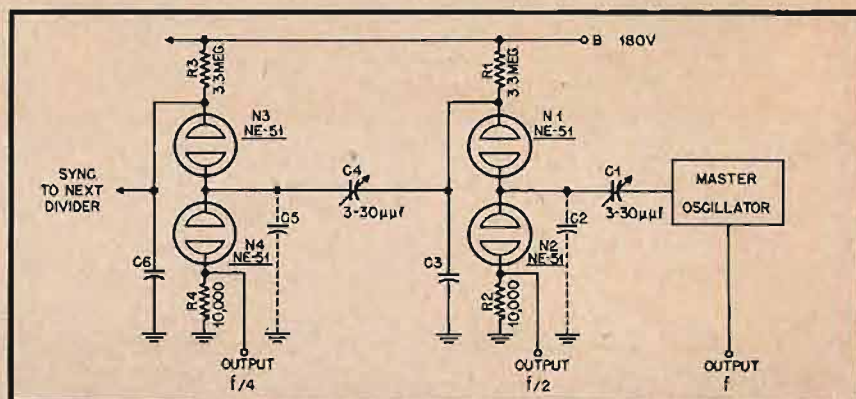

Fig. 1
The way the new invention works is illustrated by the schematic diagram of Fig. 1. Two neon oscillators, that is, two stages of a frequency-divider chain, are shown. Each consists of two neon lamps ( $N_1$  and  $N_2$  in the upper-frequency stage), connected to ground through  $R_2$ , a small load resistor, and to plus 180 volts through  $R_1$ , the timing resistor. The timing capacitor is  $C_1$ . The circuit as so far described will be recognized as an ordinary relaxation oscillator. When B-voltage is applied,  $C_1$  charges through  $R_1$ . When the voltage is sufficient across  $C_1$  to reach the combined firing potential of both lamps, they fire. When unfired the lamps are open circuits; when fired their fairly low resistance short-circuits the timing capacitor  $C_1$ , discharging it. The waveform produced across  $C_1$  is sawtooth; however, the usual sharp drop to zero after the gradual rise is somewhat slowed due to  $R_2$ , which delays the discharge slightly just as  $R_1$  delays the charge to a much greater degree. The "flyback" time of the wave is therefore quite finite rather than being nearly zero as it would be without  $R_2$  (the bottom of  $N_1$  grounded). In Fig. 2, (A) shows what the voltage across  $C_1$  looks like. Since current flows through the lamps and  $R_2$  only during the discharge pulse, the voltage across  $R_2$  is as shown in (B) of Fig. 2 and it is used for output. Output could, of course, be taken from other points to obtain sawtooth voltage, but all other points are at high impedance or would tend to affect frequency of operation, which is one of the drawbacks of neon oscillators.